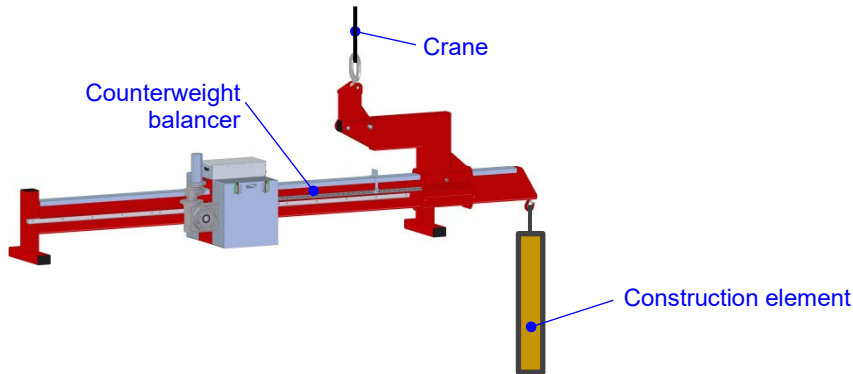

Fig. 2: Attachment GGA-B 6300/40/3,0/6,0 oVH
The counterweight balancer GGA-B 6300/40/3,0/6,0 oVH is designed as a load lifting attachment and is mounted to a crane according to fig. 2.
- ⇒ the counterweight balancer has to be prepared according to point 3.3 of this operating manual and following this, it has to be coupled to the crane (s. fig. 2).